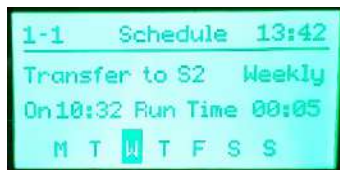

Figure 32 - Schedule Setup
15. The screen will now show a screen like Figure 32 - Schedule Setup shown below.